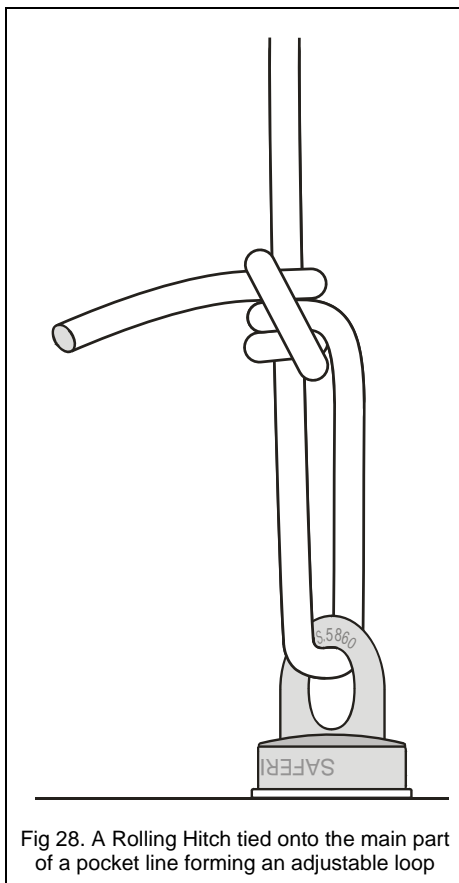

Fig 28. A Rolling Hitch tied onto the main part of a pocket line forming an adjustable loop
- Can be tied onto the main part of a line forming an adjustable loop as shown in *figure 28*.
- The rolling hitch as applied in *figure 28* can be positioned up or down the main part of the line to adjust as desired. The hitch will automatically lock provided it is dressed and packed correctly.